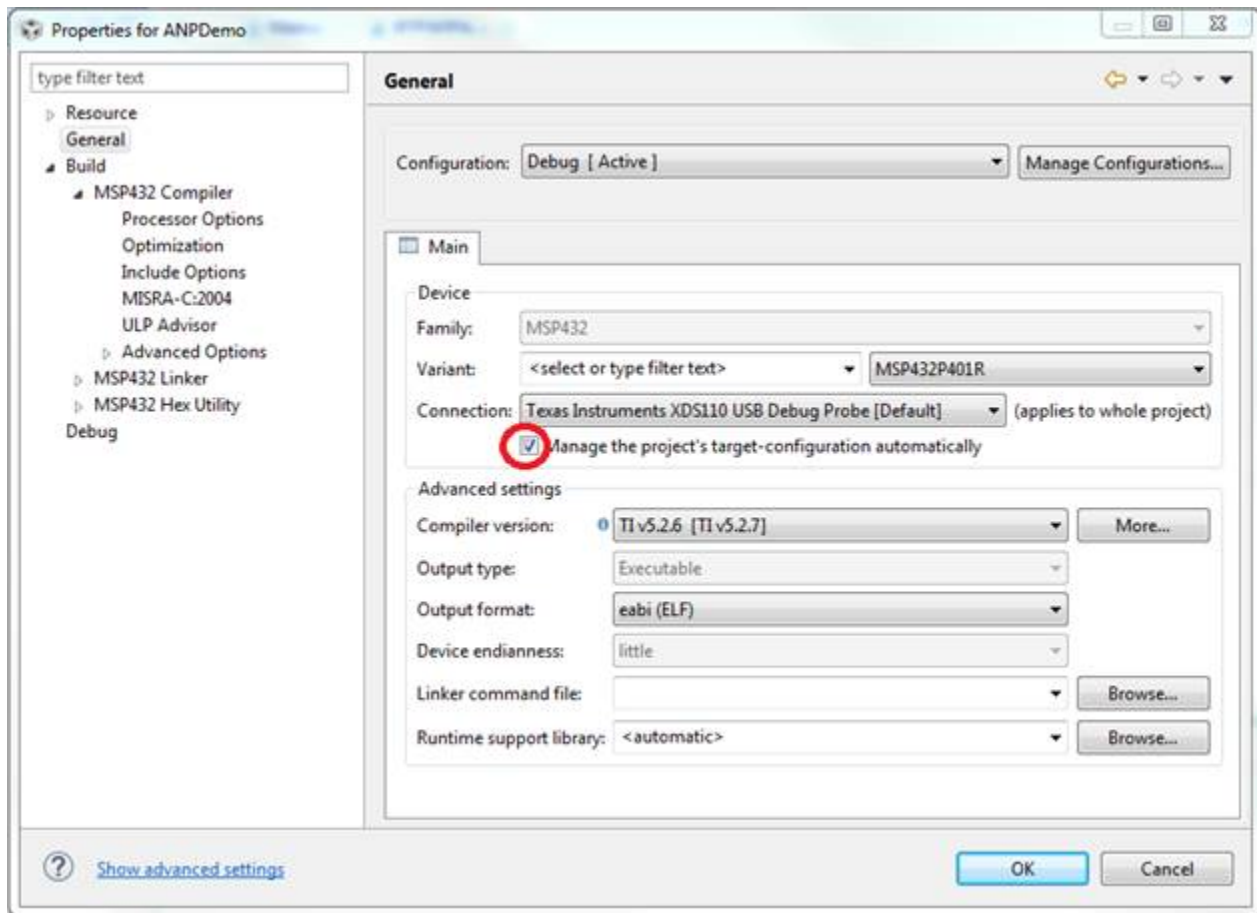

Figure 7. Project Properties / General
- Open Project / Properties / General, and ensure that the “Manage the project’s target-configuration automatically” checkbox is set. See Figure 7.